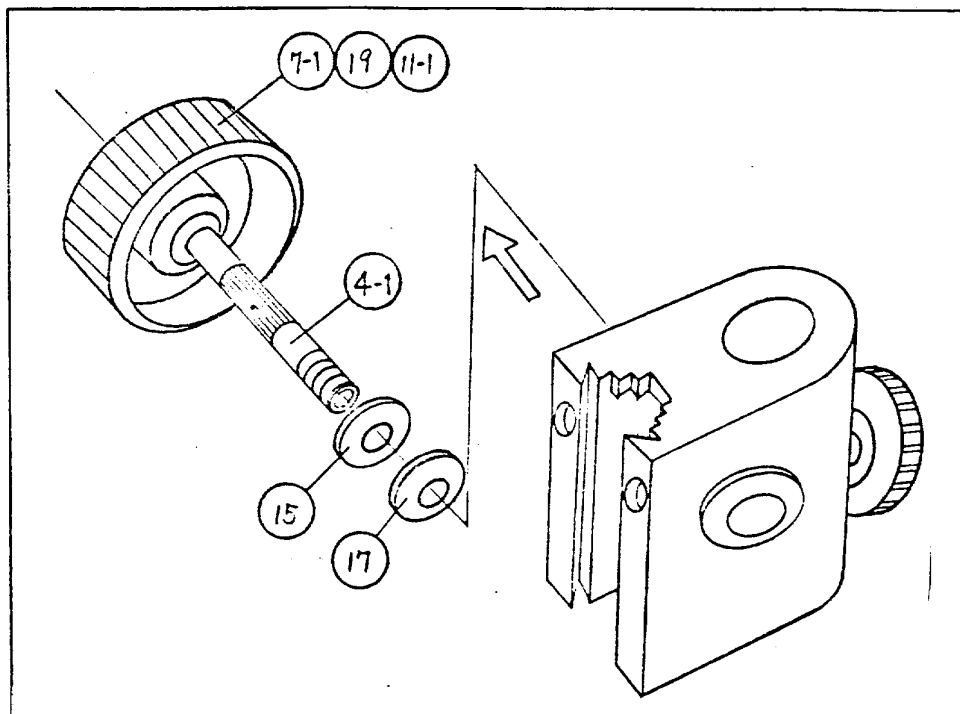

Fig. 68
7) Draw out the pinion shaft (4-1) togetherwith the focusing knob (7-1) (Fig. 68).